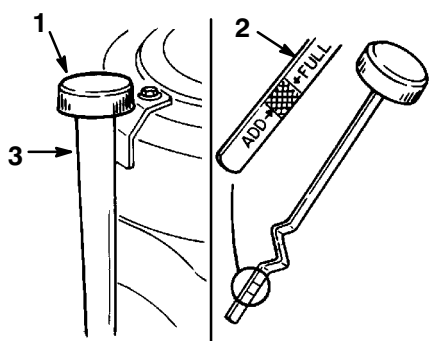

Figure 20
3. Clean around the oil dipstick (Fig. 20) so dirt cannot fall into the filler hole and damage the engine.
4. Unscrew the oil dipstick and wipe the metal end clean (Fig. 20).
5. Slide the oil dipstick fully into the filler tube, do not thread onto tube (Fig. 20). Pull the dipstick out and look at the metal end. If oil level is low, slowly pour only enough oil into the filler tube to raise the level to the “FULL” mark.
7. Slowly pour approximately 80% of the specified amount of oil into the filler tube (Fig. 20). Now check the oil level; refer to Checking Oil Level, page 21. Slowly add additional oil to bring to "FULL" mark on dipstick.